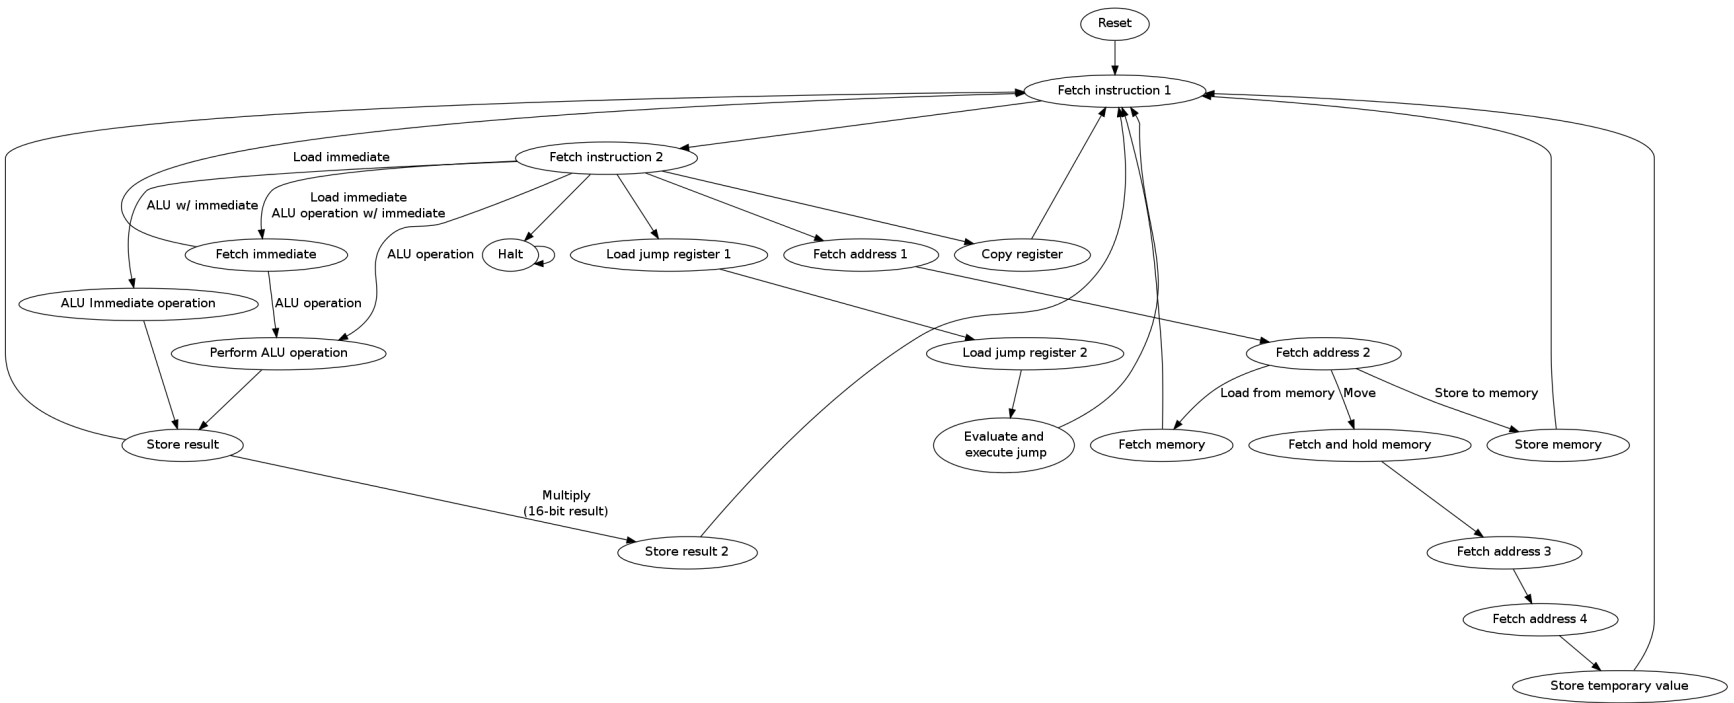

Figure 3.8: Control module state transition diagram. Each state takes exactly one clock cycle.
**Design** The state diagram for the state machine is shown in Figure 3.8. The states are all defined as constants in a separate header file, shown in Appendix A.1 on page 25.